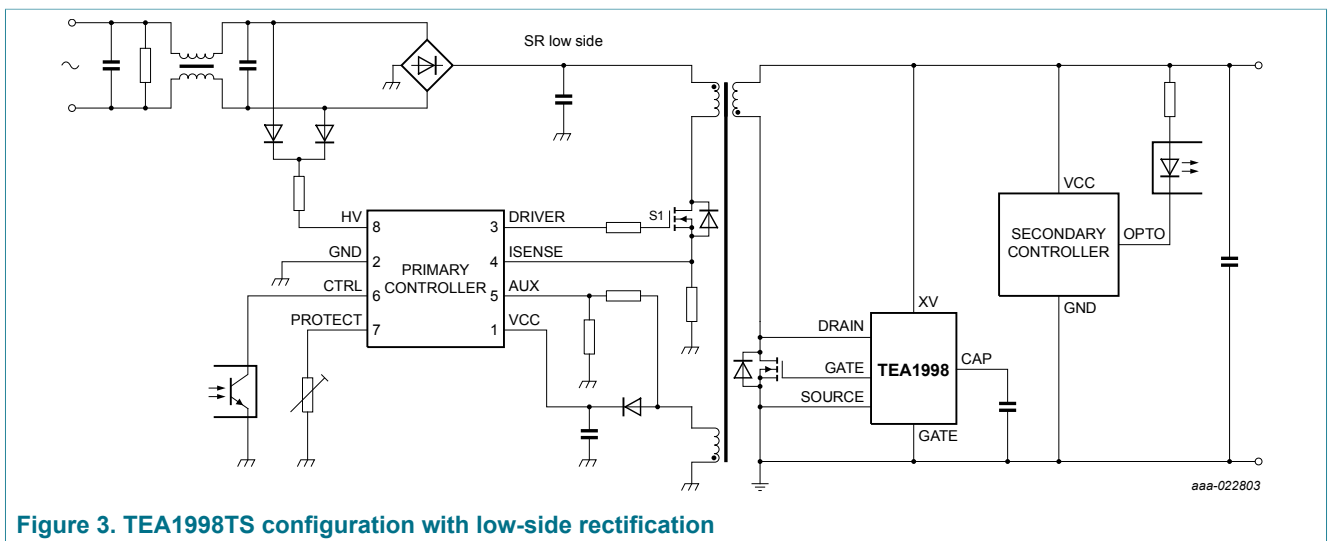

Figure 3. TEA198TS configuration with low-side rectification
The TEA198TS is a controller IC for Synchronous Rectification (SR) in flyback applications. It can drive the external synchronous rectifier MOSFET for the rectification of the voltage on the secondary winding of the transformer. Figure 3 shows a typical configuration.